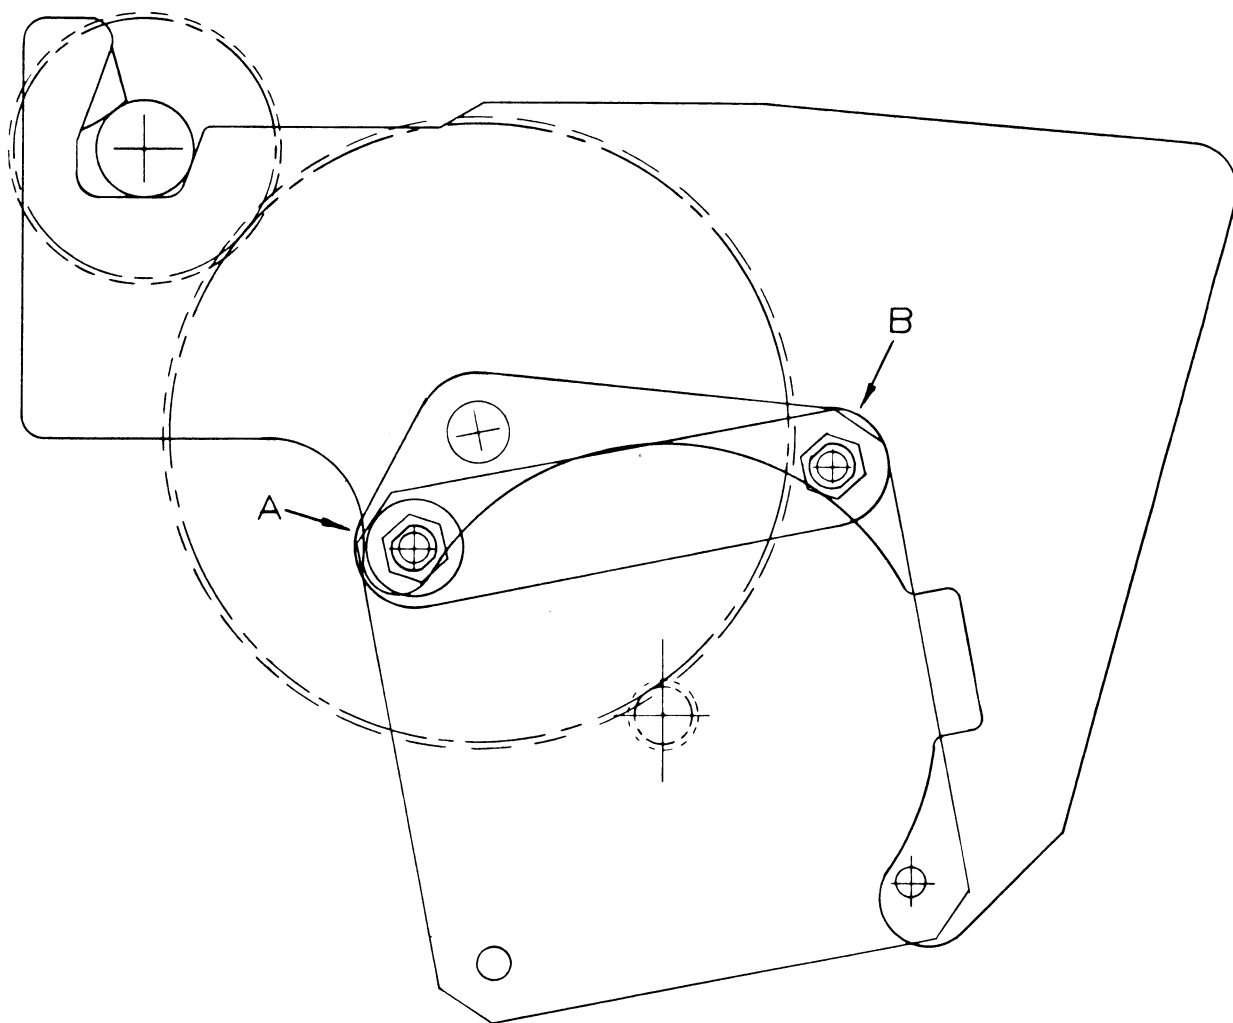

FIGURE 7-6
- (1) Refer to Figure 7-6, showing the paper feed mechanism on the right side of the printer's chassis. Locate and loosen the two $\frac{1}{4}$ " hex head screws which secure the triangular idler gear mounting plate (Figure 7-6 (A) and (B)).
- (2) Move the large idler gear simultaneously into mesh with the drive motor pinion and with the platen drive gear. Adjustment is optimal at that point where the greatest depth of penetration is achieved, short of bottoming which would cause binding of the gear train.
- (3) When this point is found, lock the idler gear in position by re-tightening the two hex head screws that were loosened in Step #1 above.
- (4) Test the adjustment by first removing power from the machine and checking the mechanism by hand for any evidence of binding. With power off, the platen should rotate freely.
- (5) Now restore power to the printer, and check for excessive backlash by rocking the platen gently against the restraining torque of the paper feed stepper motor.
- (6) If necessary, repeat Steps #1 through #3 to obtain the best adjustment. Excessive play that cannot be adjusted out of the gear train must be corrected by replacement of worn parts. Output quality is the final criterion to be considered.